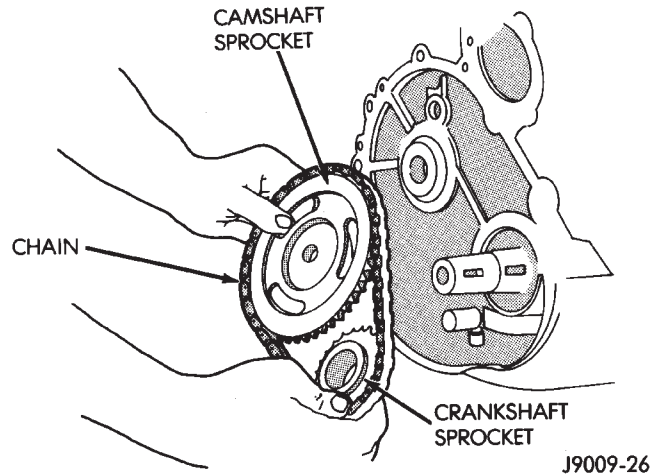

Fig. 42 Camshaft and Crankshaft Sprockets and Chain
- (7) Remove the oil slinger from the crankshaft.
- (8) Remove the camshaft retaining bolt and remove the sprockets and chain as an assembly (Fig. 42).
- (9) To replace the timing chain tensioner, the oil pan must be removed.